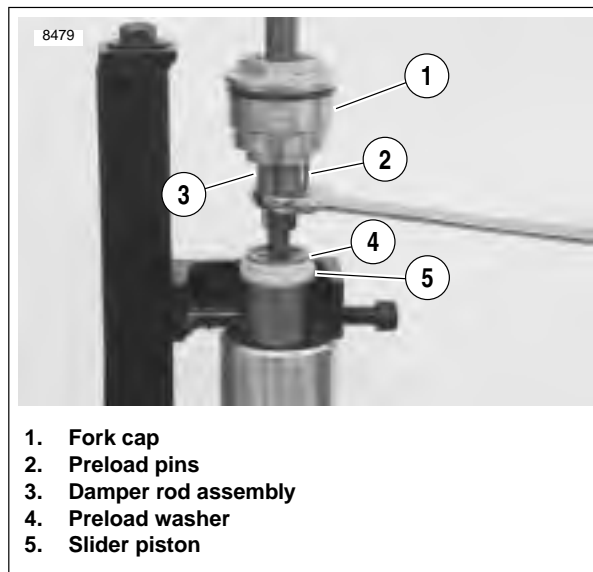

Figure 2-68. Holding Damper Rod Assembly
- See Figure 2-68. Hold damper rod assembly (3) and remove fork cap (1).